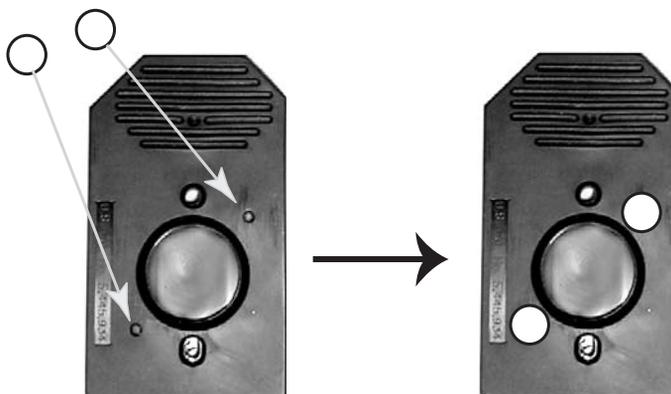

Figure 4.16 Applying Tough-Spots® to the array cartridge
1. Cover the septa on each array with a Tough-Spot (Figure 4.16).